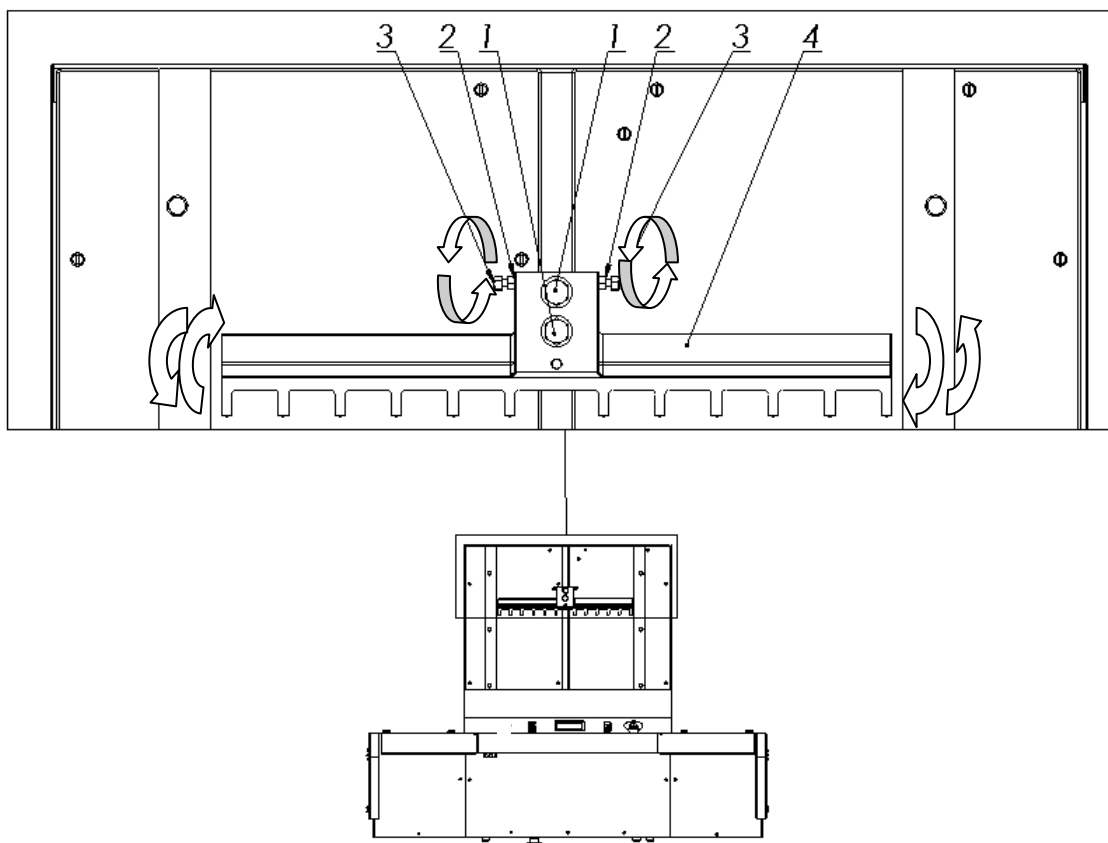

Figure 41. Adjusting the backgauge
- 8.4.3 loosen the screws 1 (fig.41)
- 8.4.4 loosen the nuts 2 (fig.41)
- 8.4.5 by turning the screws 3, place the approaching backguage 4 (Fig. 41) at the right angle
- 8.4.6 lock the adjustment screws with 3 nuts 2 (fig.41)
- 8.4.7 firmly tighten the screws 1 (fig.41)